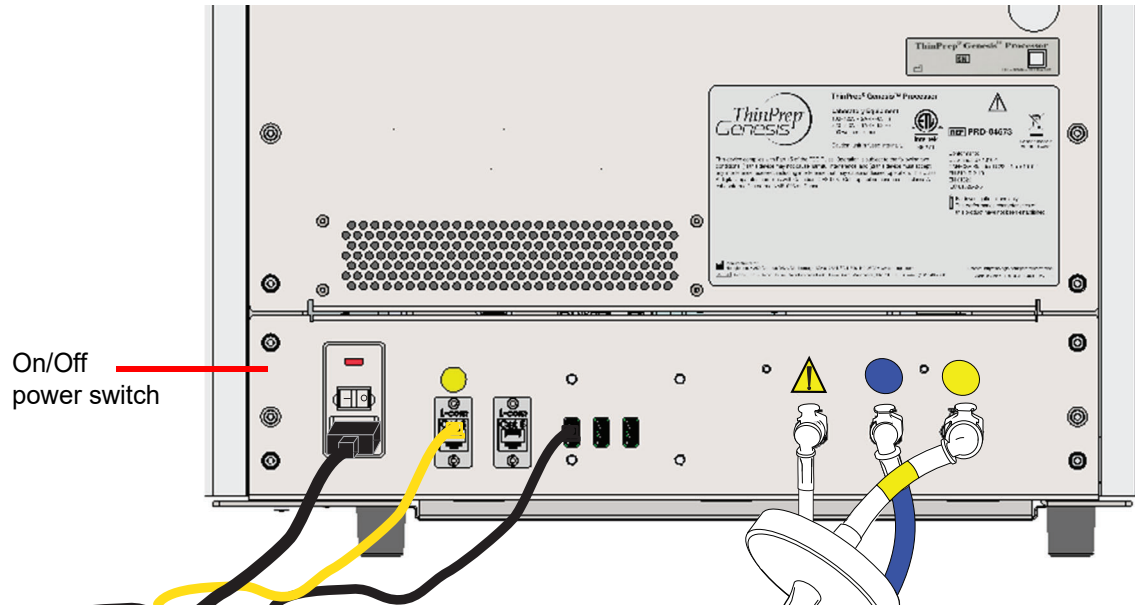

Figure 2-1 Power switch
1. To turn on the ThinPrep Genesis processor, press the rocker switch located near the power cord on the back of the processor to the on position. See Figure 2-1.